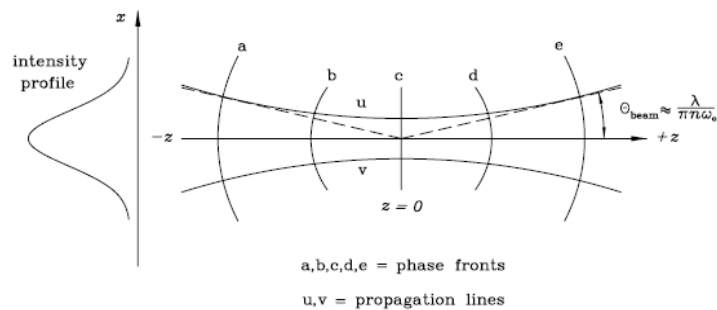

Figure 1: A propagating Gaussian beam
Geometrical optics is only a good approximation if you neglect diffraction and assume infinite intensity-independent wavefronts, e.g. plane waves or spherical waves. In the PHYSICS 326 course, you will learn that the intensity of a laser beam has a Gaussian shape (some of the theory is included in the appendix). At any optical interface along the  $z$ -axis, a Gaussian beam can be characterised by  $\omega$  and  $R$  where  $\omega$  is the half width of the beam profile and is defined as the radius where the intensity has dropped to  $1/e^2$  of its value on the axis, and  $R$  is the radius of curvature of the circle formed by the wavefront of the beam. The wavefront is always perpendicular to the direction of propagation. Fig. 1 shows the form of a propagating Gaussian beam.
On the other hand, one can determine the curvature of the wavefront by measuring the spot size at several different positions of a straight section and using the *ABCD law*. Knowing the  $q$ -parameter in front and behind a thin lens allows us to calculate the focal length of this lens. Contrary to geometrical optics the spot size of a Gaussian beam will always be finite. The minimum value of the spot size is called the beam waist, and is denoted by  $w_0$ . At this position ( $z = 0$  in Fig. 1) the wavefront will be rectilinear, i.e.  $R = \infty$ .
- (7) Determine the position of the beam waist and its radius  $\omega_0$  by measuring  $\omega$  at at least two different positions (approximately 0.1 m and 0.5 m behind the last mirror). To work out the position of the beam waist use the far-field divergence angle of the laser which is given by (see Fig. 1):